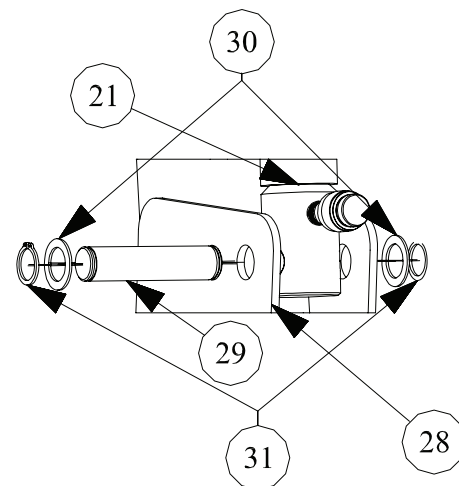

Figure 11
9. Align the hole on the quick coupler end of the cylinder [#21] with the holes of the cylinder mounting plates [#28], lifting the boom if necessary and making sure that the hydraulic hose quick coupler fitting is pointing away from the frame of the crane as shown in Figure 11. Insert the 1" lower cylinder retaining pin [#29] into the aligned holes and adjust so that an approximately equal length protrudes from each of the mounting plates. Place a 1" washer [#30] onto each side of the retaining pin and snap a 1" retaining ring [#31] into each of the grooves in the retaining pin.